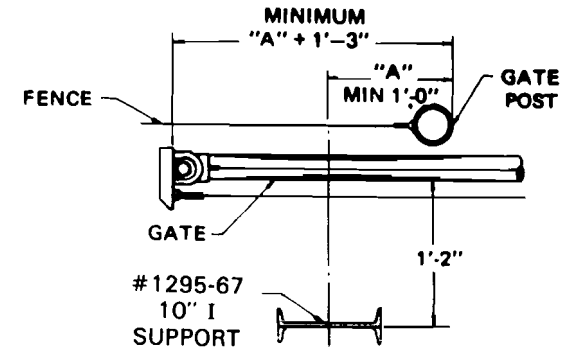

Figures 2a, b, c & d Basic Gate Applications
(1) The Crown Industrial Operators 1295 Electric Gate Operators have been field proven for dependable, trouble free operation of sliding gates. Four basic applications are shown in Figure 2a, b, c & d. To insure correct installation and proper operation, follow the instructions listed below.
FOR USE WITH SINGLE OPERATORS. SEE FIGURE 2a